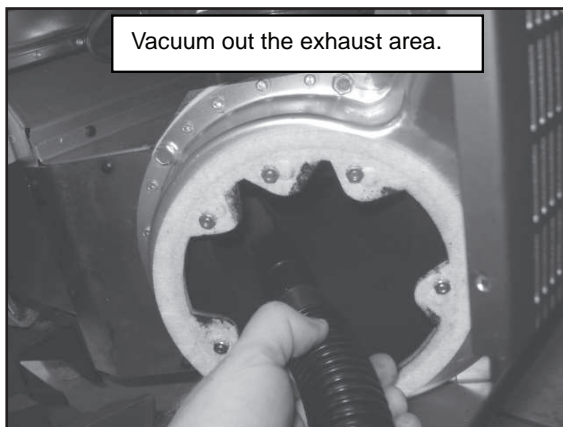

Figure 18.2
- Vacuum out the exhaust area. **Figure 18.2.** You may need to replace the gasket at this time also. See Parts List for part number.